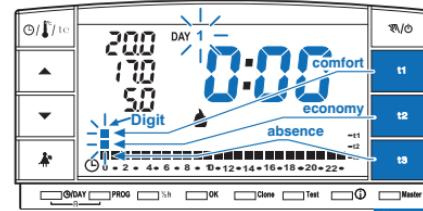

fig. 9
The two digits **t1** and **t2** will appear blinking on the display, referring to the hour 0:00 and number 1 corresponding to the day **Monday** (fig. 9).
- Temperature and hour selection (blinking digit) is set by pressing the corresponding key (**t1**, **t2** and **t3**) (fig. 9).